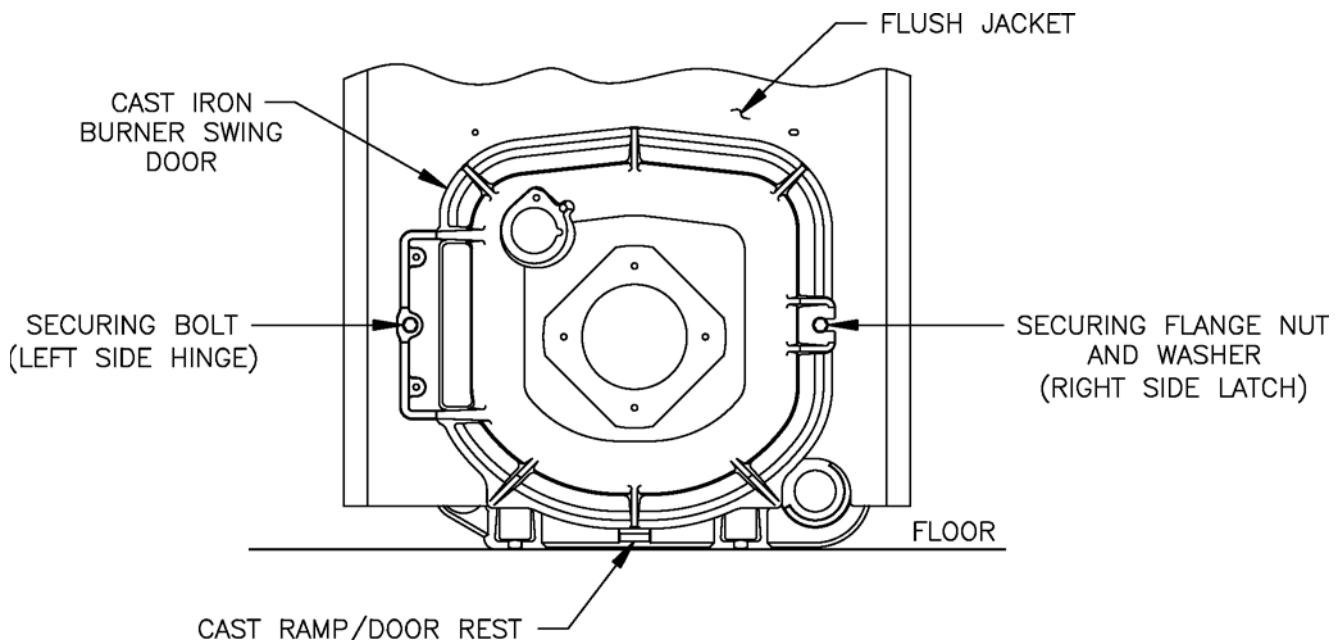

Figure 11A: Partial Front View - Burner Swing Door Mounted to Boiler - Fully Closed and Secured
1. **TO OPEN BURNER SWING DOOR** (see Figures 11A and 11B).
3. To close Burner Swing Door (see Figures 11A and 11B):
Step 2. Grasp the door's left side hinge flange in your left hand and place your right hand under the burner air tube to lift upward. Lift the door up onto the built-in cast ramp/door rest (protruding from the bottom of the front section casting - see Figure 11A), while rotating the articulated hinge and door to the right and engaging the slot (on right side of door) unto the 5/16" stud protruding from the front section.